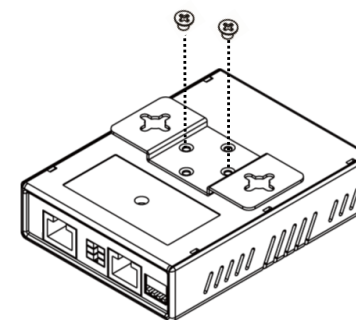

Figure 1
2. Insert the Mounting **Screws** (x 2) through the **Wall Mount Bracket** and into the **Local** or **Remote** unit. (Figure 1)